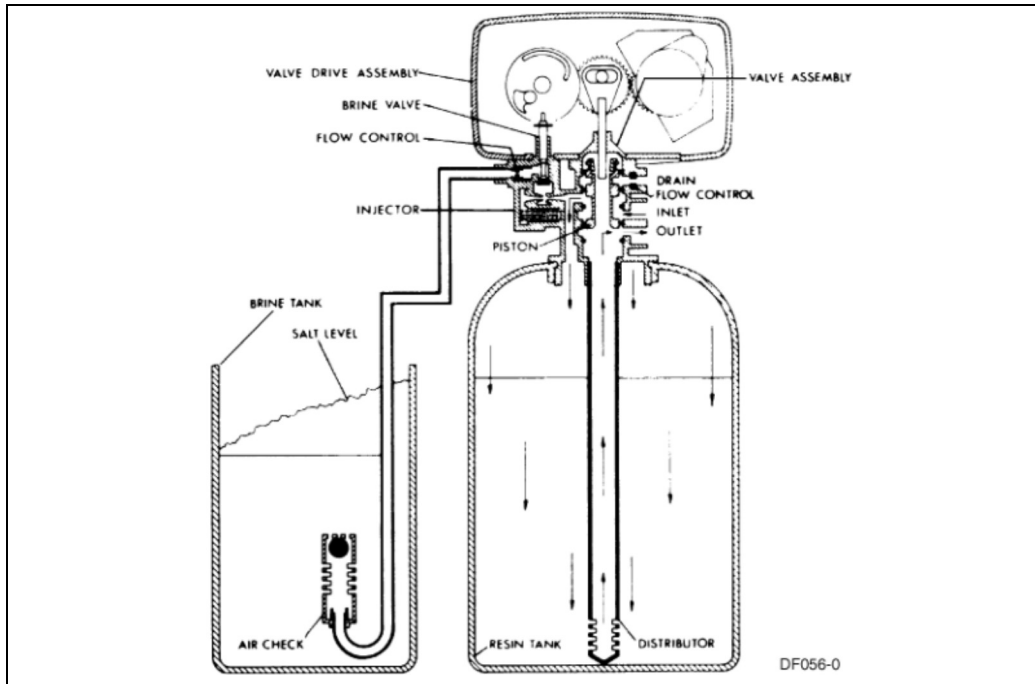

Figure 4: Service Position
1. In Service position. *See Figure 4, page 10.*
- Same as *Figure 4, page 10* with standard piston (white end plug) or filter piston (black end plug).